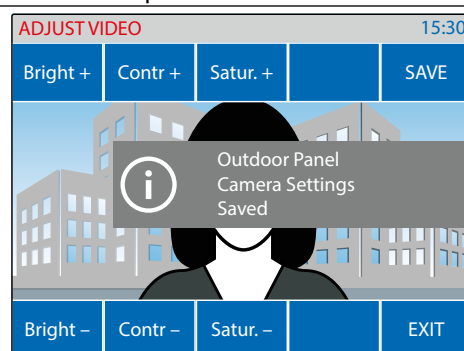

Fig. 22 Save the video adjustment
- A notice will inform that the adjustment is saved (**Fig. 22**).